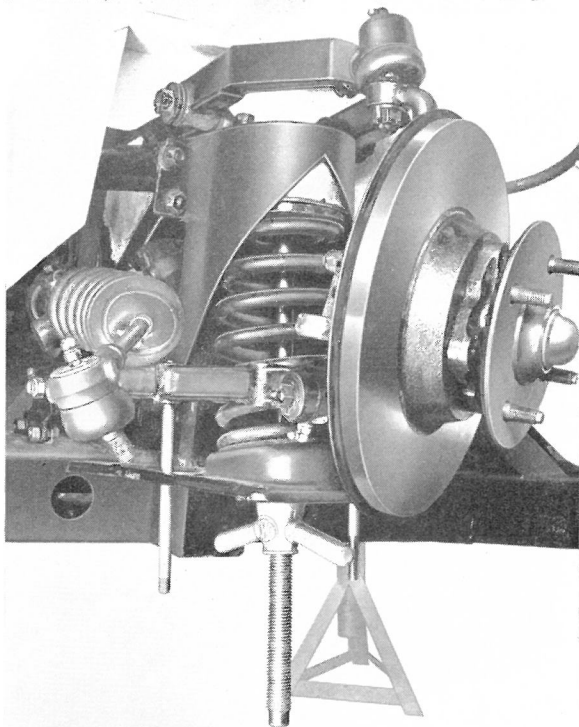

Fig. 8. Releasing the front spring
Compress the spring by tightening the wing nut until the lower wishbone arms are horizontal. Remove the bolts (62) and fit two $\frac{3}{8}$ " $\times$ 6" (9·5 mm. $\times$ 152 mm.) guide rods as shown on Fig. 8.